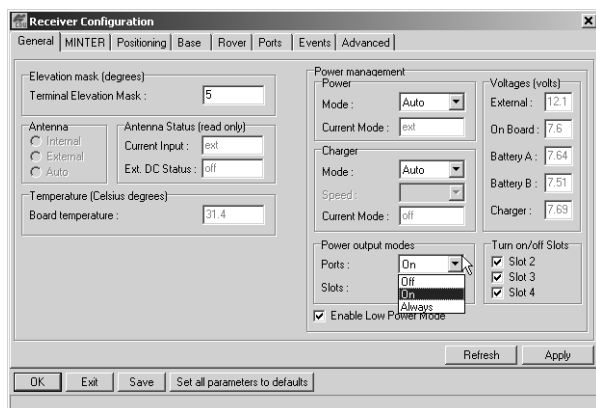

Figure 2-15. Select Power Output Modes – Ports
5. Select the Power output modes Ports drop-down list to set power output on the serial ports (Figure 2-15).